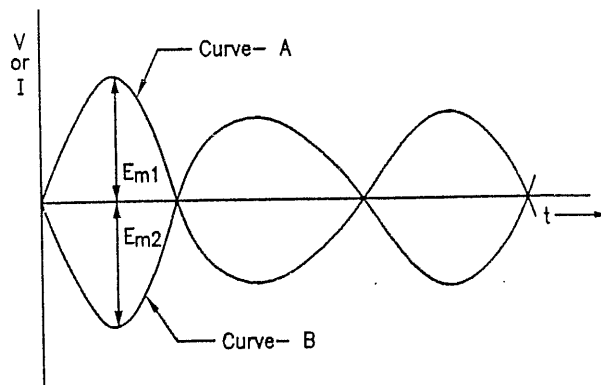

FIG. 2.8 : ALTERNATING QUANTITIES
- (b) Two alternating quantities are called **out of phase** when one alternating quantity attains positive maximum when other quantity attains negative maximum at the same instant. (Fig. 2.8)